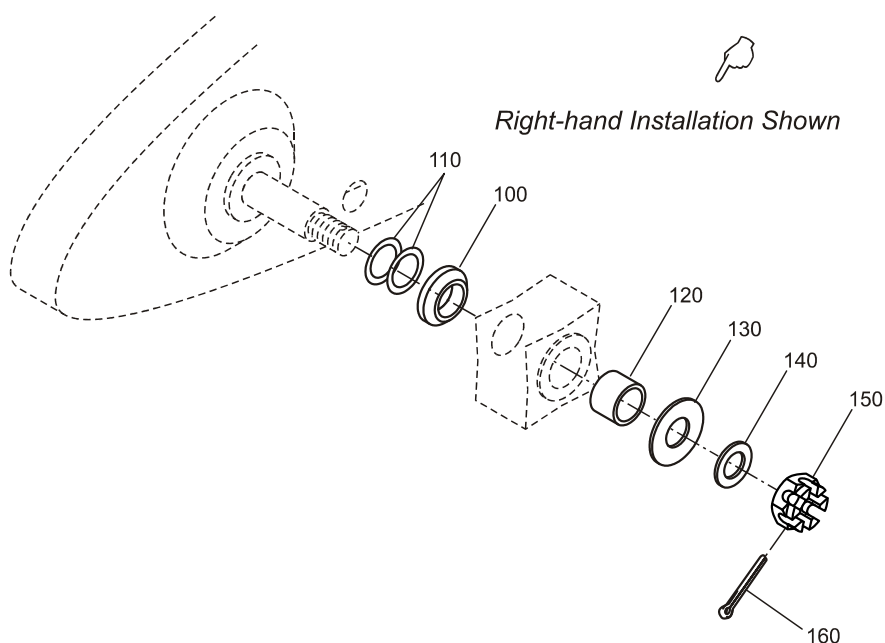

Fig. 3
- 1.8.4. Remove cotter pin LN94-4x30 (Fig. 3, item 160) from each wing shear bolt.
- 1.8.5. Release castellated nut P/N LN9345-M16x1,5 (Fig. 3, item 150) as follows:
- install additional shims P/N 115C-1001.28 (Fig. 3, item 110, thickness 0.5mm) between wing and fuselage as required